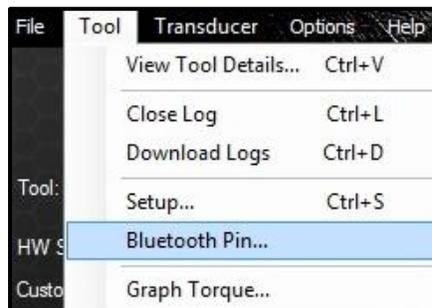

Figure 5.8-1: Bluetooth Pin Button
- From the Tool menu, select “Bluetooth Pin” (Figure 5.8-1).